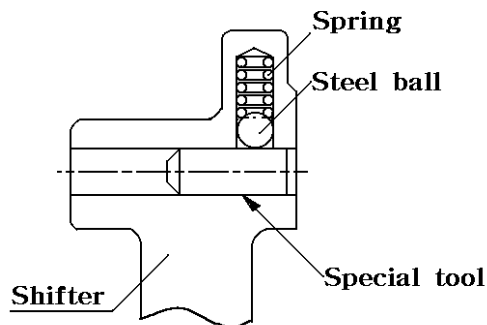

Fig.5-86
(3) Reassembly
c. When installing the shifter on the shifter stay, Use the special tool as shown in Fig.5-86